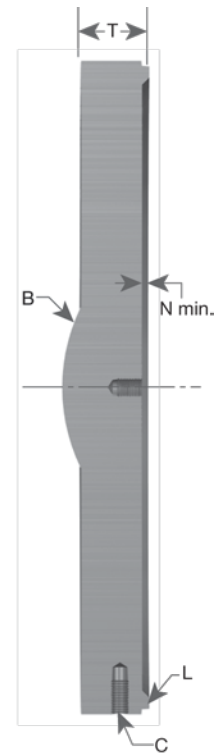

Figure 18: Metal and Soft Seat Disc Inspection Areas
- Discard the disc if the minimum dimension N or T (Figure 18, Table 5) is reached. Do not reestablish surface C.
7. **Standard Metal Seated Disc:** This disc (Figure 18) can be machined until the T dimension is reduced to the minimum, as listed in Table 5. The N min. dimension must be maintained as well.